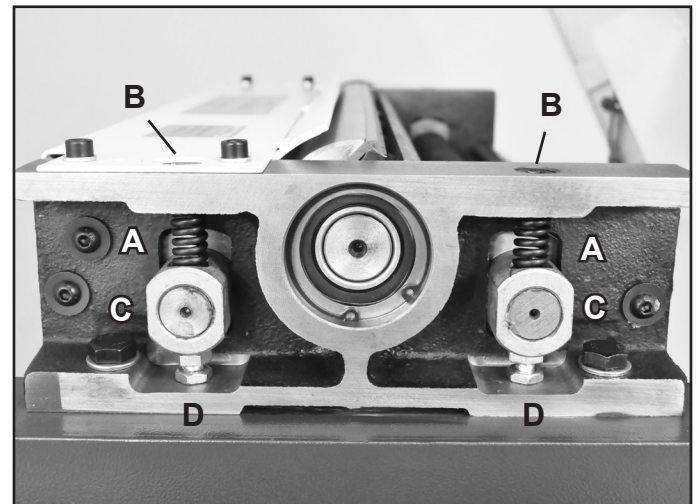

FIG. 19
2. Lift the planer's upper Cover (#13) to access the cutterhead assembly. FIG. 19 & 20.
3. *Adjusting Downward Pressure* for the Feed Rollers is done by the Springs (#47, A) positioned above the Roller Shaft ends (C). Adjusting the pressure is done with the Set Screws (#48, B) that are above the springs.